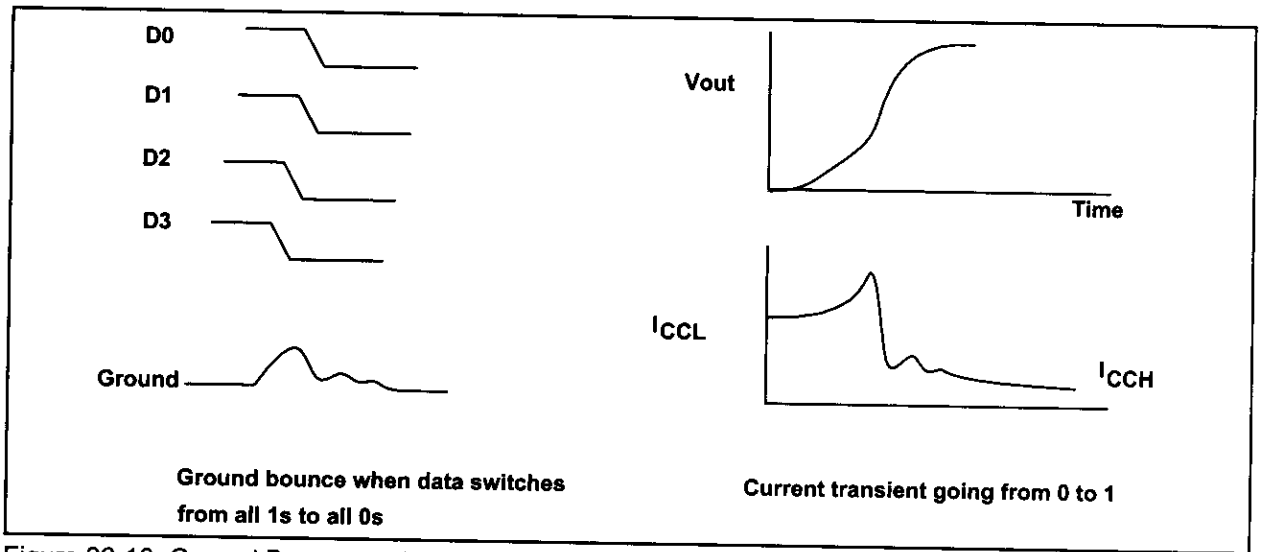

Figure 26-10. Ground Bounce and Transient Current for Output Transitions
2. Use logics with a minimum number of outputs. For example, a 4-output is preferable to an 8-output. This explains why many designers of high-performance systems avoid using memory chips or the drivers and buffers of 16- or 32-bit wide outputs since all the outputs switching at the same time will cause a massive flow of current in the ground pin, and hence cause ground bounce (see Figure 26-10).
In the TTL family, the change of the output from low to high can cause what is called *transient current*. In totem-pole output when the output is low, Q4 is on and saturated, whereas Q3 is off. By changing the output from the low to high state, Q3 becomes on and Q4 becomes off. This means that there is a time that both transistors are on and drawing currents from the  $V_{CC}$ . The amount of current depends on the  $R_{ON}$  values of the two transistors and that in turn depends on internal parameters of the transistors. However, the net effect of this is a large amount of current in the form of a spike for the output current, as shown in Figure 26-10. To filter the transient current, a  $0.01\ \mu\text{F}$  or  $0.1\ \mu\text{F}$  ceramic disk capacitor can be placed between the  $V_{CC}$  and ground for each TTL IC. However, the lead for this capacitor should be as small as possible since a long lead results in a large self-inductance and that results in a spike on the  $V_{CC}$  line [ $V=L(di/dt)$ ]. This is also called  $V_{CC}$  bounce. The ceramic capacitor for each IC is referred to as a *decoupling capacitor*. There is also a bulk decoupling capacitor, as described next.